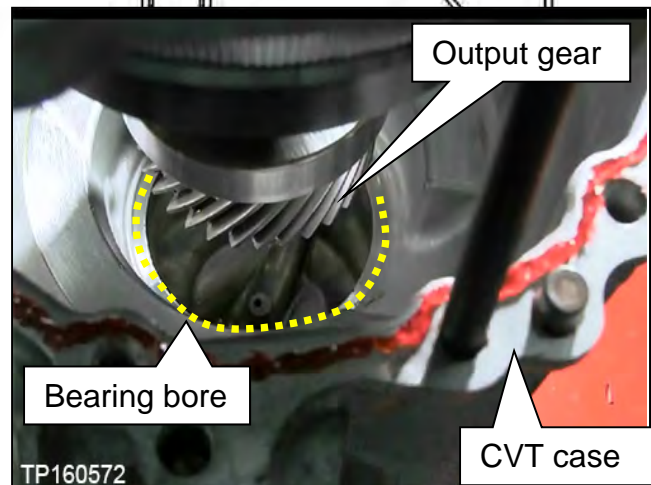

Figure 98
- Look in to the bearing bore to confirm the output gear is centered (Figure 98).